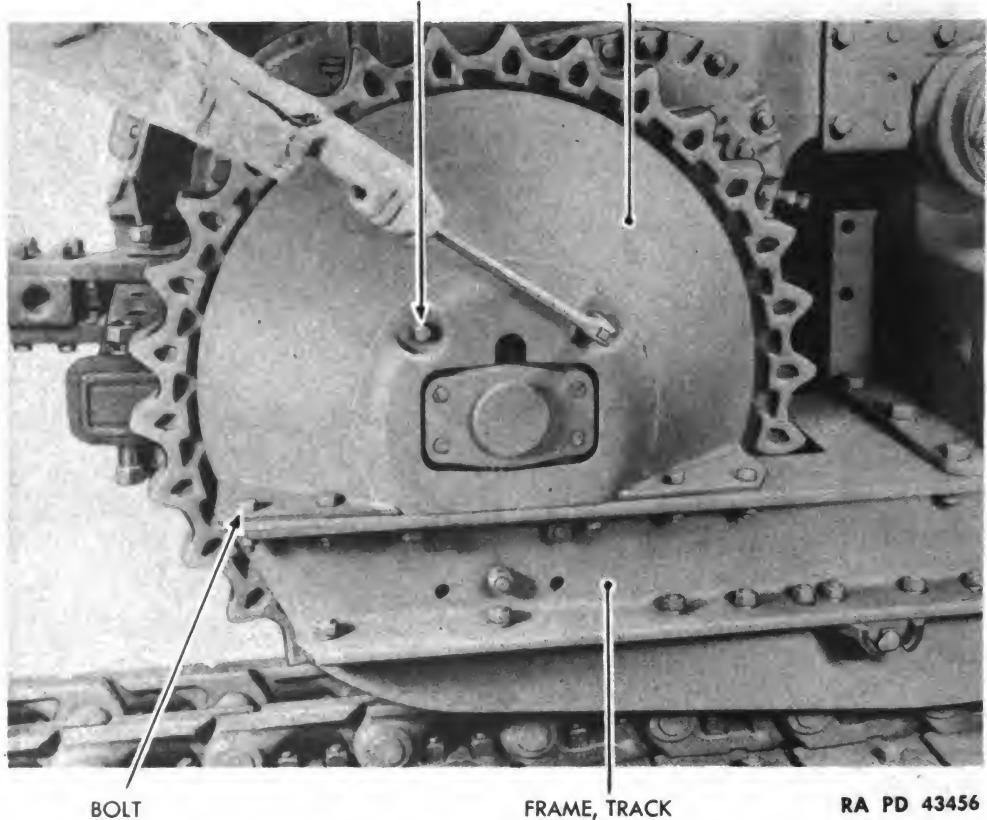

Figure 182 – Sprocket Shield with Supports Removal
(4) REMOVE SPROCKET SHIELD WITH SUPPORTS (fig. 182).